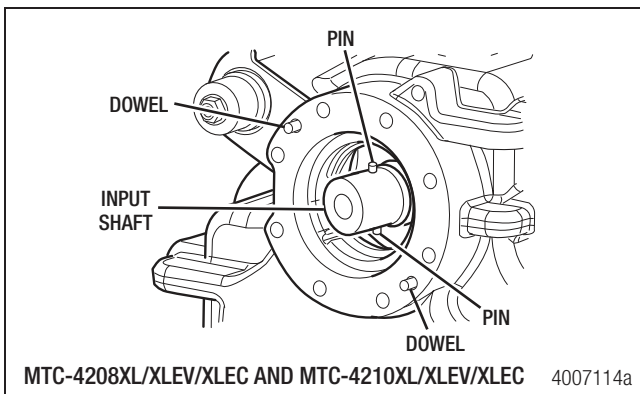

Figure 7.41
- Verify the drive pins are installed into the input shaft. Figure 7.41.